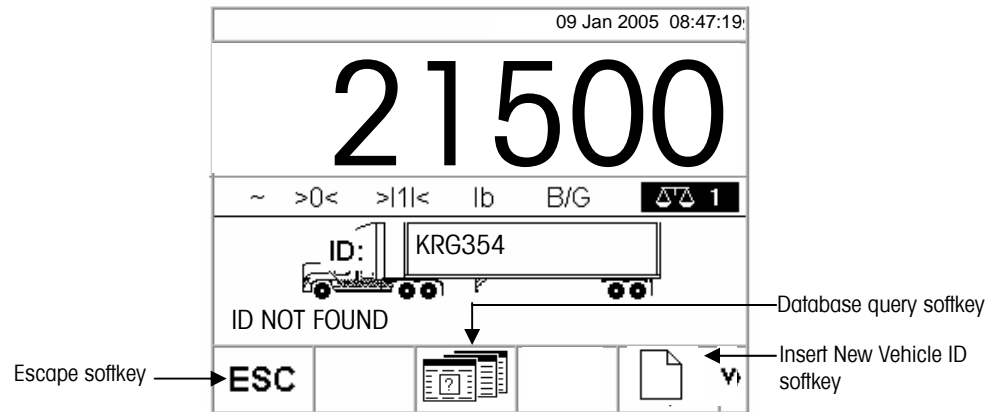

Figure 2-8: Default Weight Screen
If the vehicle's ID is not located, the display will read ID NOT FOUND (see Figure 2-8).
- **Escape**—Press the ESCAPE soffkey (see Figure 2-8) to return to the main Default Weight Screen.
- **Search for the vehicle ID**—Press the DATABASE QUERY soffkey (see Figure 2-8) to search for the vehicle ID. Once the correct ID is located, continue with the outbound process (see Outbound Process).
- **Insert New Vehicle ID**—Press the Insert New Vehicle ID soffkey (see Figure 2-8) to store the ID in the temporary ID table (see Temporary ID Weighing).
- **Escape**—Press the ESCAPE softkey (see Figure 2-8) to return to the main Default Weight Screen.
- **Search for the vehicle ID**—Press the DATABASE QUERY softkey (see Figure 2-8) to search for the vehicle ID. Once the correct ID is located, continue with the outbound process (see Outbound Process).